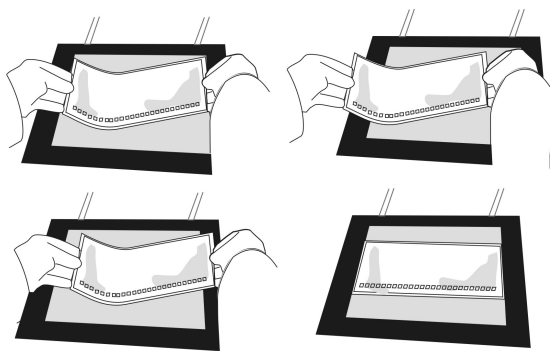

Fig. 3: Applying the gel on the cooling plate.
3. Remove the gel from its packaging. Remove the cover-film. Grip the gel (surface up) at the two lateral edges at the protruding film, bend it like an “U” and slide the film-backing left and right on the cooling plate to distribute the cool contact fluid evenly (Fig. 3). Remove excess cooling fluid along film edges with lint-free tissue paper.